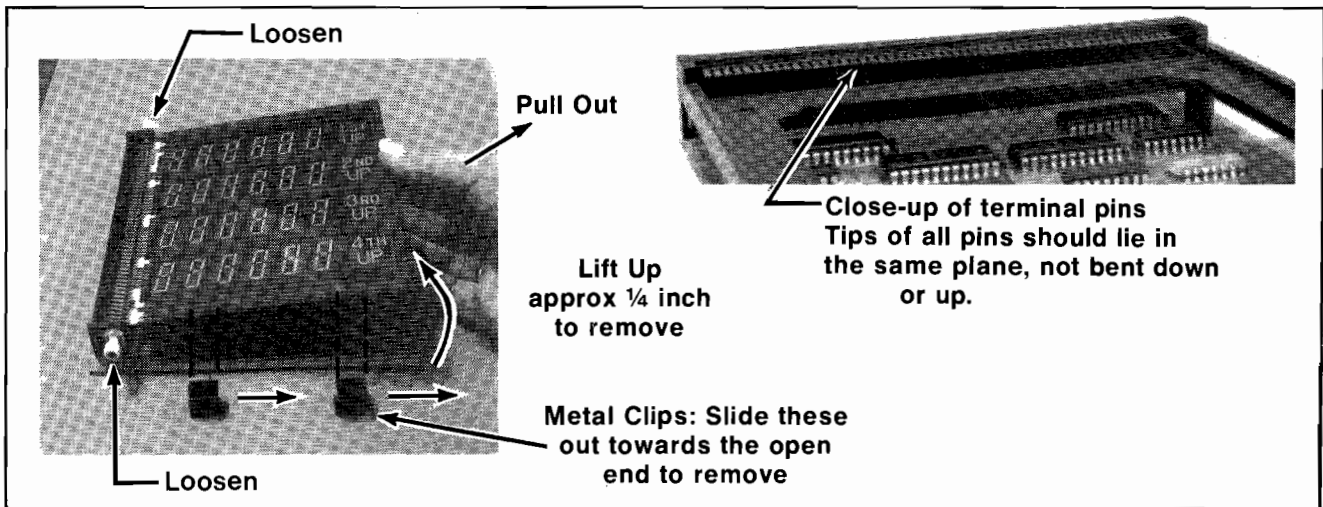

Figure 17 Removal of Score Panel
2. Remove the metal clips holding the score panel onto the bracket arms of J21 (refer to Figure 17).
3. Loosen nylon screws that position the score panel into the score panel connector (refer to Figure 17).
5. Examine the positions of the terminal pins on J21. Tips of the pins should be aligned in the same plane, as shown in the detail view of Figure 17. If not bent out of alignment, all pins can then make contact with the score panel's terminal strips when the panel is plugged in.
1. Using both hands, grasp the right-hand edge of the panel and carefully slide it fully into connector J21. Then lower the edge down until the entire panel rests in the bracket arms. Adjust the two nylon screws on each side of the score panel connector until score panel terminals are perfectly aligned (refer to Figure 17). At the factory a rubbery substance called RTV was placed between the bracket arms and the score panel. This substance provides a cushion between the glass panel and the metal arms, and positions the panel so that connector J21's terminal pins line up exactly with the panel's terminal strips.